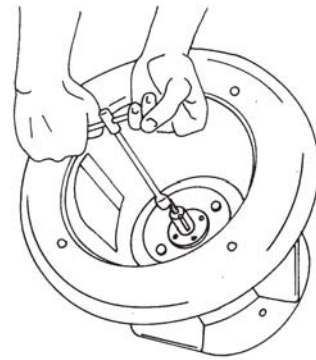
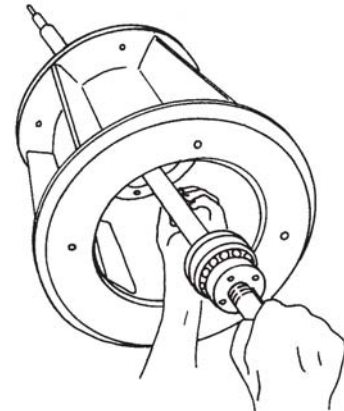

FIG.7
FIG.8
- 8) Remove the (pos. 49) screws in order to separate the little lid (pos. 80) from the support (pos. 83) **fig. 7**. Extract the rotor from the support **fig. 8**. In order to replace the ball bearings (pos. 53 – 54), unscrew the screws (pos. 84) and the ring nut (pos. 79) (right-hand thread), extract the tooth tongue (pos. 78), remove from the shaft (pos. 7) the group comprising the metal bush and the bearings themselves. Extract the lower one first (pos. 53), unscrew the ring nut (pos. 56) (right-hand thread) and afterwards remove the upper ball bearing (pos. 54).